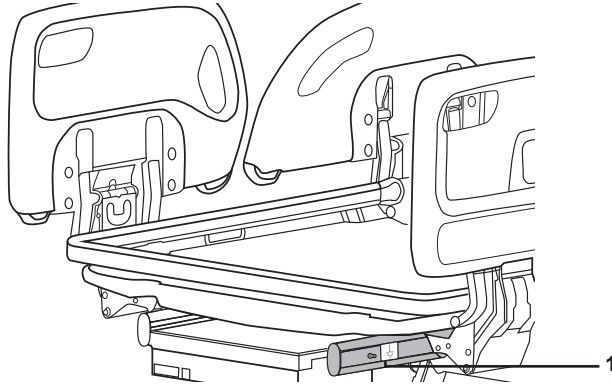

Figure 5: Location of potential equalization terminal
A potential equalization terminal (Figure 5, item 1) is located at the foot end of the bed.